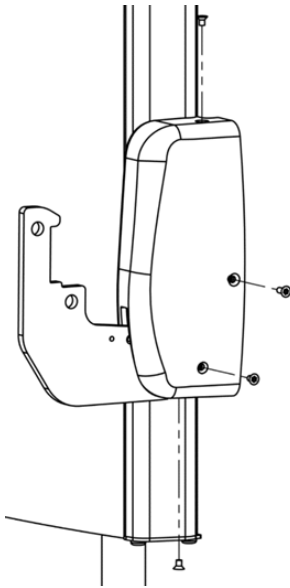

Fig 12.11d
- Align the four screw holes and refit with the previously removed screws and internal spacer, see Fig 12.11d.